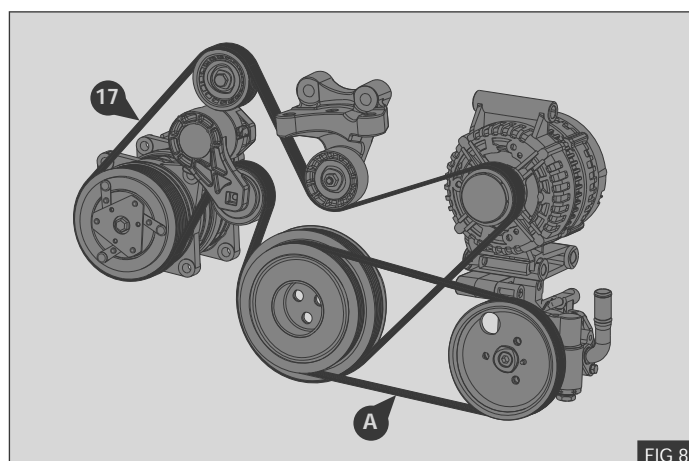

FIG 8
1. Fit the supplied replacement poly groove engine drive belt (17) to the engine in the same configuration in accordance with the original manufacturers design - Fig.8
2. Refit the original power steering stretch self tensioning drive belt (A) using the correct installation tool (Not supplied) - Fig 8.